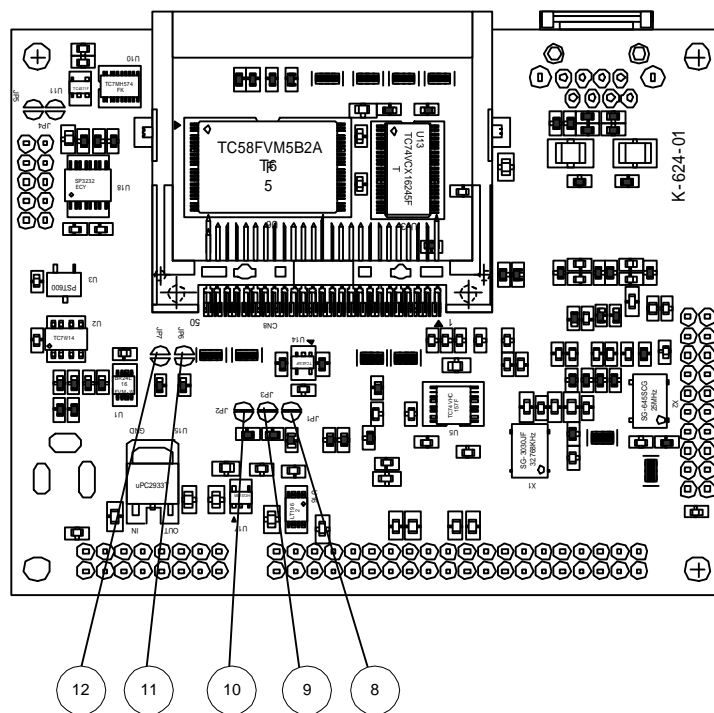

Fig.5.2 Main Board (Bottom View)
(8) to (10) in Fig. 5.2
(11) to (12) in Fig. 5.2